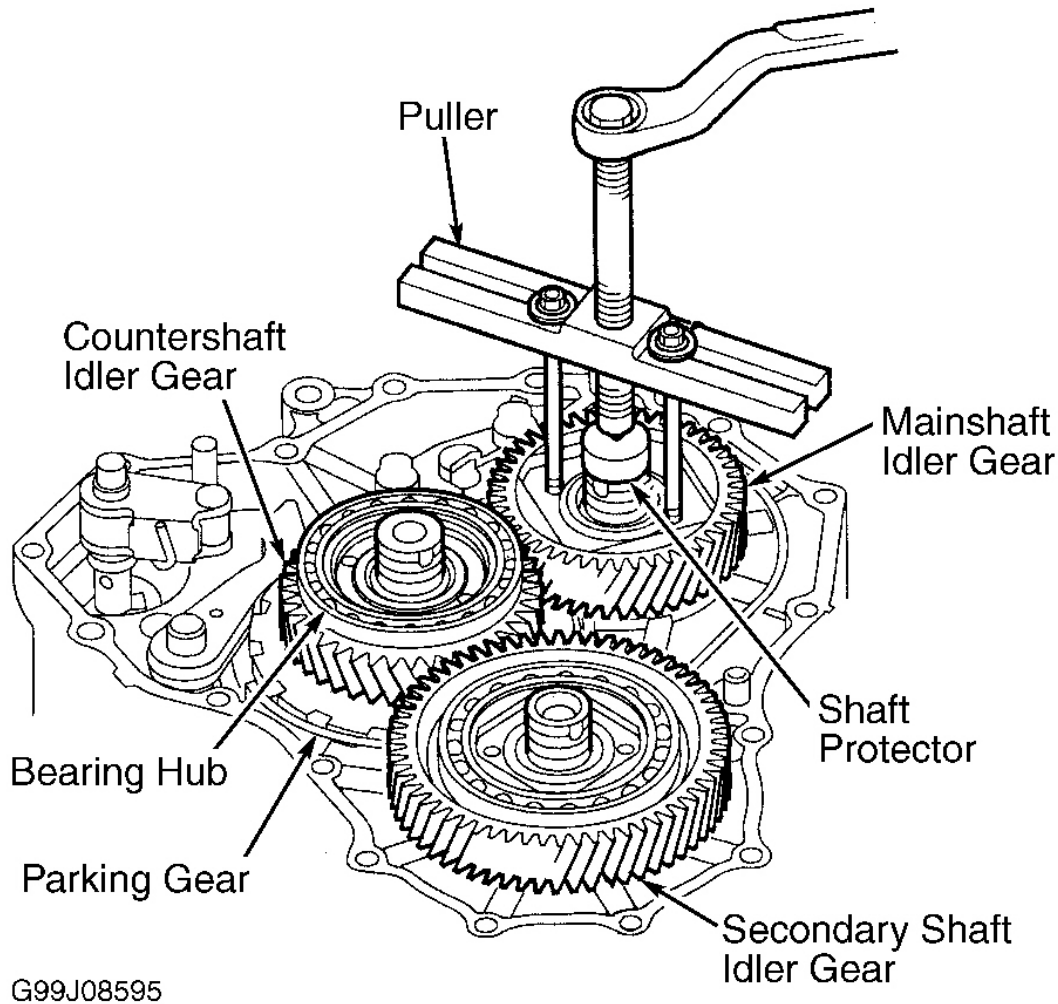

Fig. 7: Removing Idler Gears & Parking Gear
3. Remove mainshaft holder. Using a puller, remove idler gears from mainshaft and secondary shaft. See **Fig. 7**. Pull bearing hub, countershaft idler gear and bearings from countershaft.